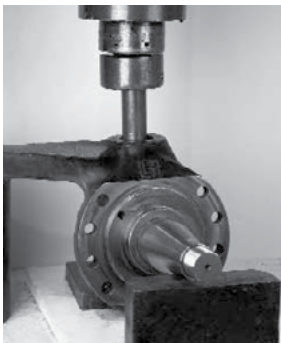

Figure 30.
2. Install the backbone upside down in press. Be sure to support the backbone assembly so that it sits in-line with the press. (See Figure 30)